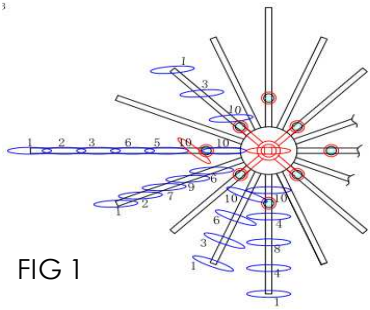
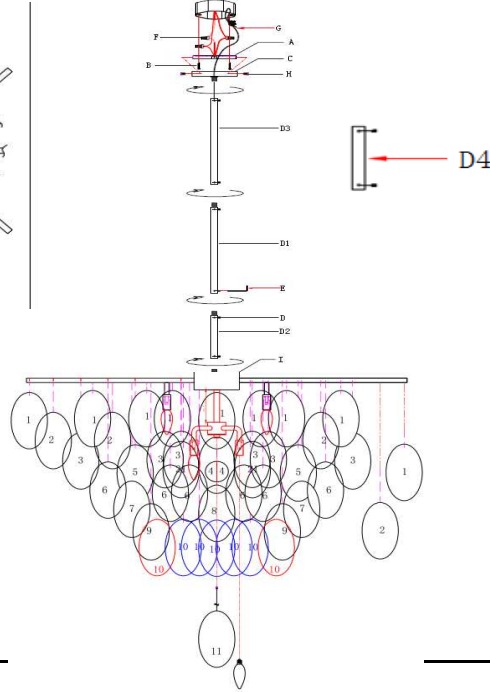

FIG 1
FIG 2
4. Connect lamp body(I) and canopy(C) with rods(D1, D2, D3, D4) when you connect the rods, loosen the small hex screws(E) first then tighten with allen wrench(E), after all rods are connected. Be sure all the hex screws are tight enough.
5. Remove mounting plate(A) from the canopy(C) by unscrewing the collar.
7. Wrap ground wire of lamp assembly and ground wire of junction box together and fasten together with a wire connector(F) and wrap the connection with electrical tape.
8. Attach the neutral fixture wire from the pendant to the neutral junction box wire (usually white). Fasten each together with a wire connector(F) and wrap the connection with electrical tape.
9. Attach the hot fixture wire from the pendant to the hot junction box wire (usually black). Fasten each together with a wire connector(F) and wrap the connection with electrical tape. **DO NOT REVERSE THE HOT AND NEUTRAL CONNECTIONS, OR SAFETY WILL BE COMPROMISED.**
10. Pass the aircraft wire(G) through the mounting plate(A), attach the aircraft wire(G) on the junction box, then secure the aircraft wire(G) with screws which are included. **This fixture is 32.5KG(71.5LBS), the aircraft wire(G) installation is requested for safety.**
11. Attach the mounting plate(A) to the ceiling outlet box by using the enclosed mounting screw(B) and tighten screws with a screwdriver.
12. Push the canopy(C) up over the mounting plate(A) until it is flush with the ceiling and fix the canopy by enclosed canopy screws(H). And tighten screws with a screwdriver. Be sure all the screws were tight enough.
14. Glassed the glasses from numbers showed on the package and remove all glasses from package carefully, and hang it over on the arm as per FIG 1 & FIG 2 showed.